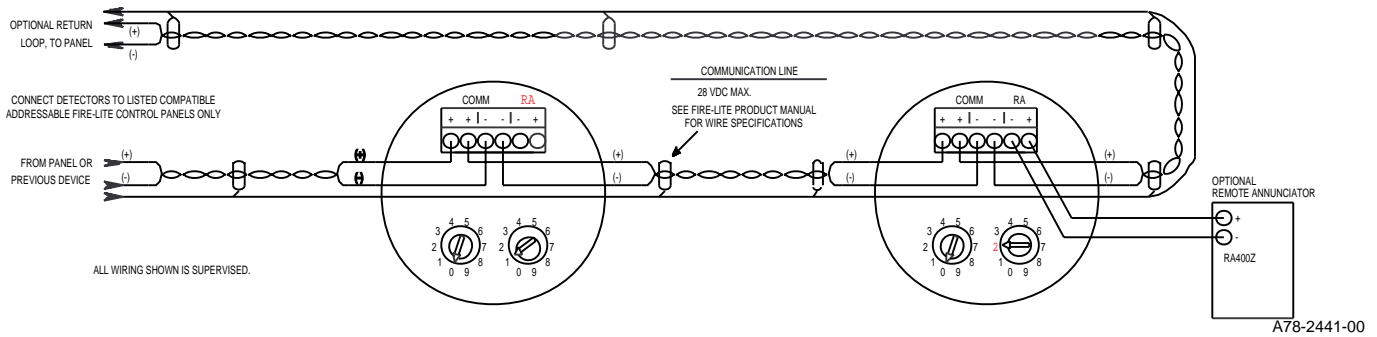
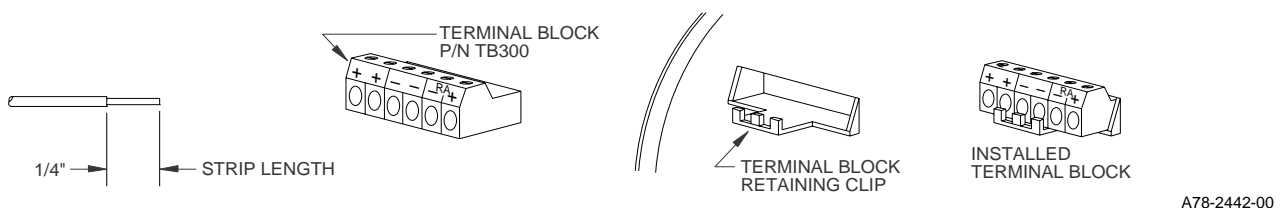

Figure 2. Wiring Diagram
Figure 3. Terminal Block Wiring Guide
2. Wire the plug-in screw terminal block per the wiring diagram (Figure 2) and the wiring guide (Figure 3). Do not over-tighten screws in terminal block.
4. Plug the screw terminal block into the detector as shown in Figure 3. The terminal block can only be inserted one way.